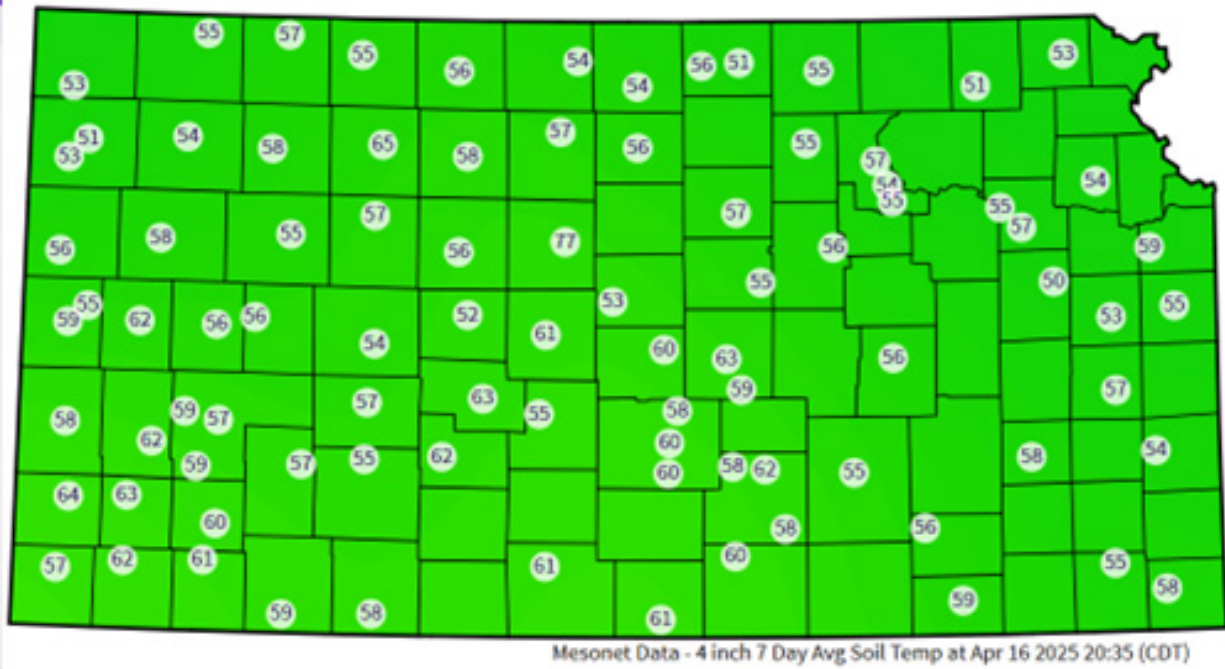

Figure 1. Average 7-day 4-inch soil temperatures (°F) as of April 16, 2025. Data and image courtesy of Kansas Mesonet (mesonet.k-state.edu).
Controlling tough weeds remains a challenge for Kansas growers, and chemical weed control remains the top strategy for their management in the state. Herbicides can be applied to crop fields using large row-crop sprayers, small hand-held or mounted sprayers, airplanes, or spray drones (Figure 1). The choice of application equipment depends on factors such as field size, field landscape, crop type, weed pressure, and socio-economic aspects. Among these methods, spray drone technology is gaining in popularity for herbicide applications. According to the American Spray Drone Association, in 2024, more than 10.3 million acres were treated with spray drones nationwide in more than 50 crops, providing \$215 million in revenue for rural businesses.
Figure 1. Spray drone with white propellers made out of nylon carbon fiber filament and equipped with a dual atomizing spraying system (spray tank, centrifugal sprinklers, and magnetic drive impeller pumps), phased array radar system, and binocular vision system. Photo by Jeremie Kouame, Kansas State Research Extension
Pictured here is a 10-day-old larva (about $\frac{3}{4}$ grown) plus a couple about 3 days old, and a very small one that just hatched, with the characteristic leaf feeding (Figure 1). Alfalfa weevil monitoring should continue until the first cutting.
Figure 1. 10-day-old alfalfa weevil larva (1); two 3-day-old larvae (2); and a larva that just hatched (3). Photo by Department of Entomology, K-State Research and Extension.